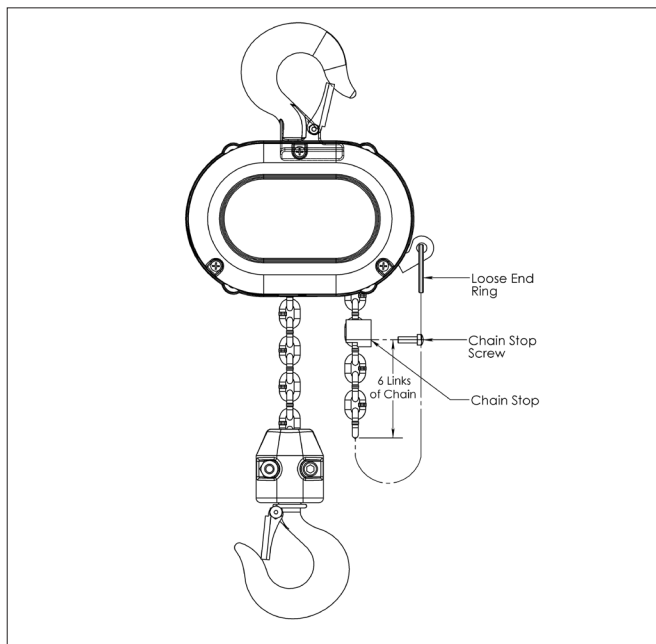

Figure 24 - Chain Stop
4. Jog the UP push button while pulling on the free end of wire until the chain comes out of the hoist. Remove the wire and attach the chain stop as shown in Figure 24. On units with chain container, place chain stop and loose end of chain in chain container. Attach chain container to chain guide.